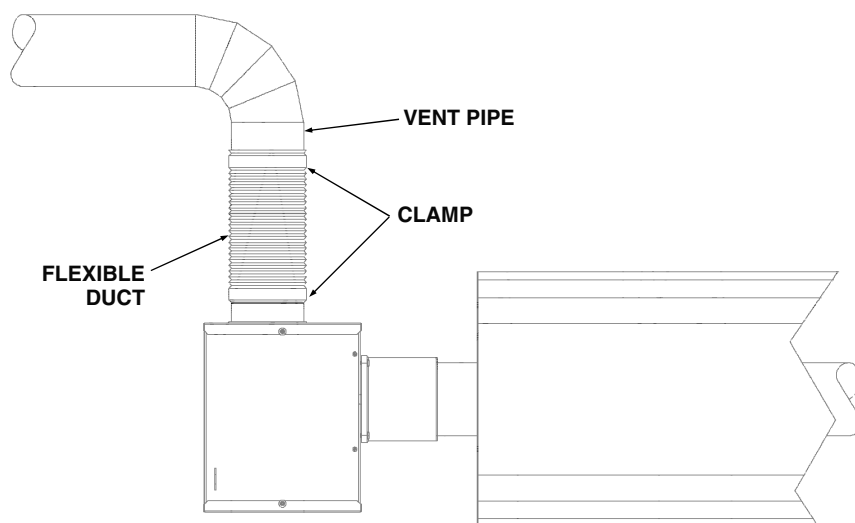

Figure 21. Fresh Air Instake Duct
- Connect a 4-inch (101-mm) diameter aluminum vent pipe from the fresh air to a flexible jointing piece connected to the air intake connection on the fan housing. Secure using hose clamps (see Figure 21).